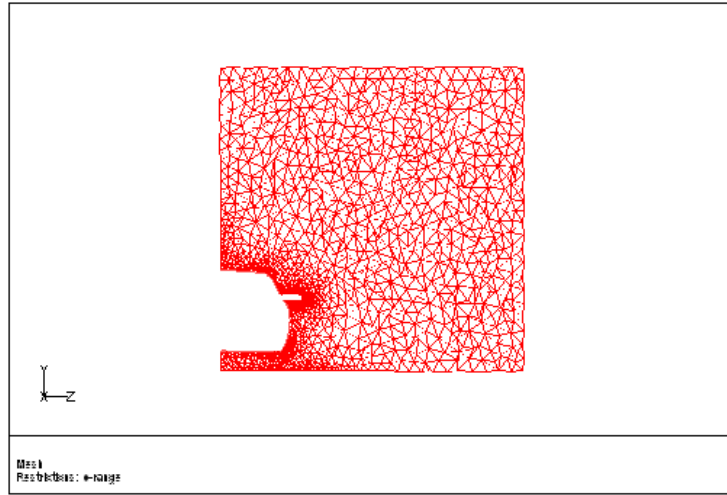

Figure 2.6: Slide of Cells at $X = -0.37$
- Display the mesh on a slide through the mirror and the car ($x = -0.37$). See Figure 2.6.